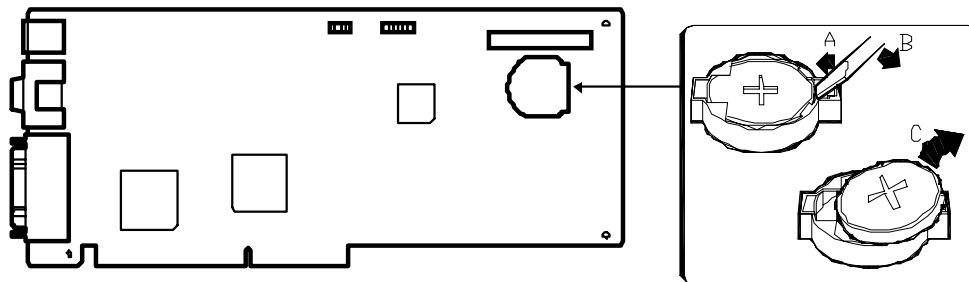

Figure 4-35. Location of the Real-Time Clock Battery
The battery (Vendor Part No. CR2450) is available through many vendors. It is located on your I/O riser board (see Figure 4-35). Notice the plus (+) sign on the battery. The sign assists in correctly positioning the battery on the I/O riser board. Contact your sales representative or dealer for a list of approved devices.
8. If the battery has a protective plastic cover, remove the cover by lifting it away from the battery. Use your fingernail or a small pointed tool to gently push up the bottom edge of the battery. See Figure 4-35 for socket location.